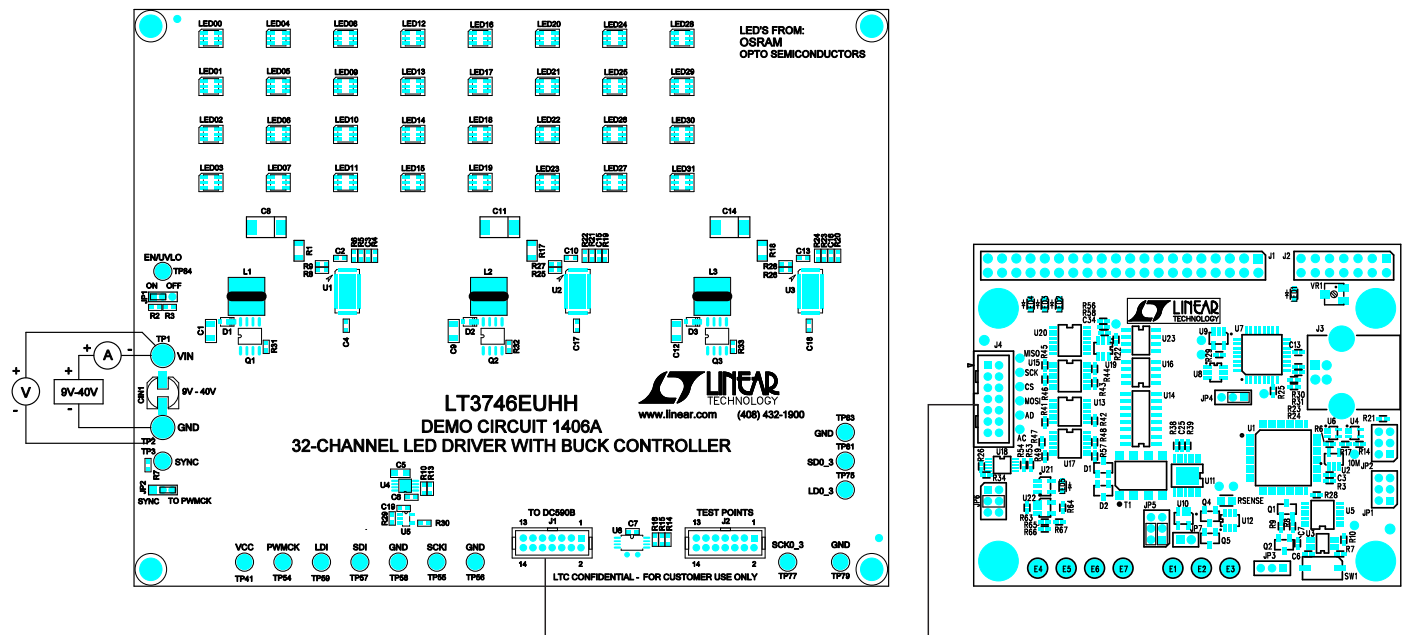

Figure 1. Proper Measurement Equipment Setup
Demonstration circuit 1406A is easy to set up to evaluate the performance of the LT3746. Refer to Figure 1 for proper measurement equipment setup and follow the procedure below:
5. Connect the demo board to DC590B as shown in Figure 1.